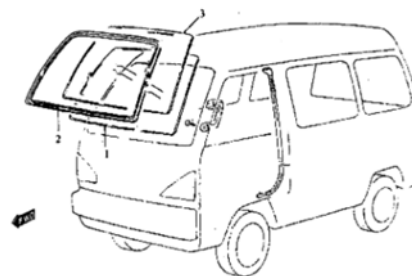

Fig. 4.5-1
1. Front windshield structure is shown as Fig. 4.5-1.